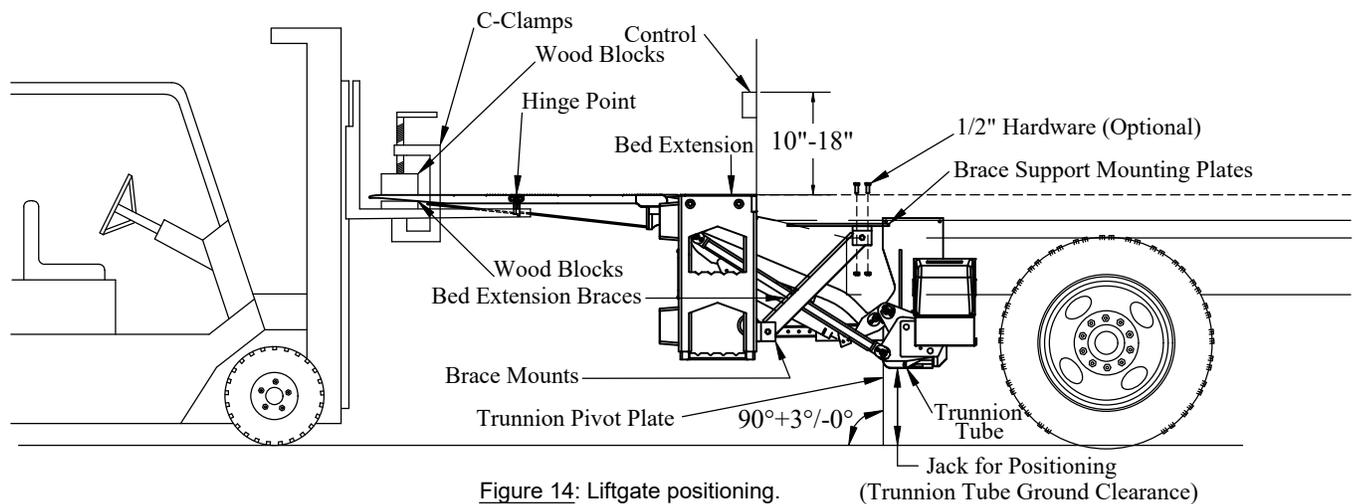

Figure 14: Liftgate positioning.
2. **Lift** the liftgate with a forklift or overhead lift (Figure 14 or Figure 15).
10. **Place** a jack under the trunion tube to aid in positioning the liftgate (Figure 14).